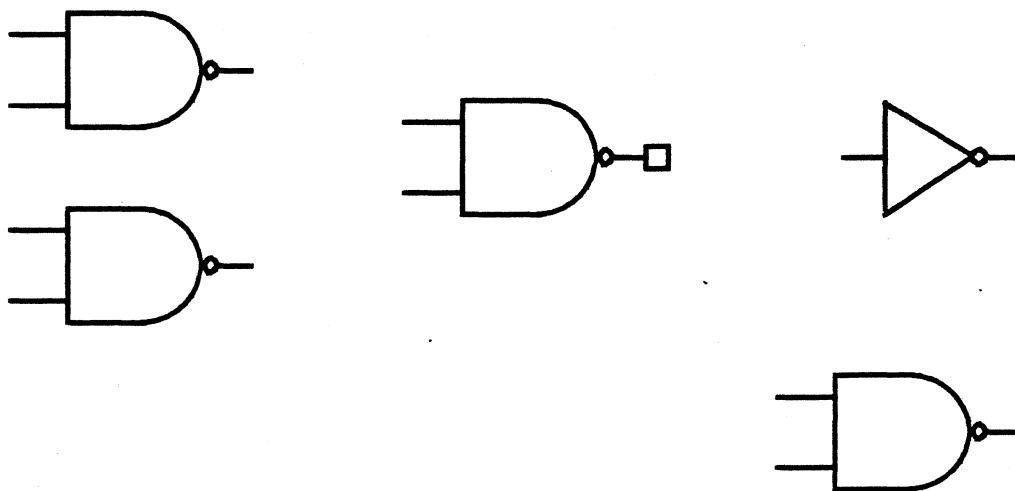
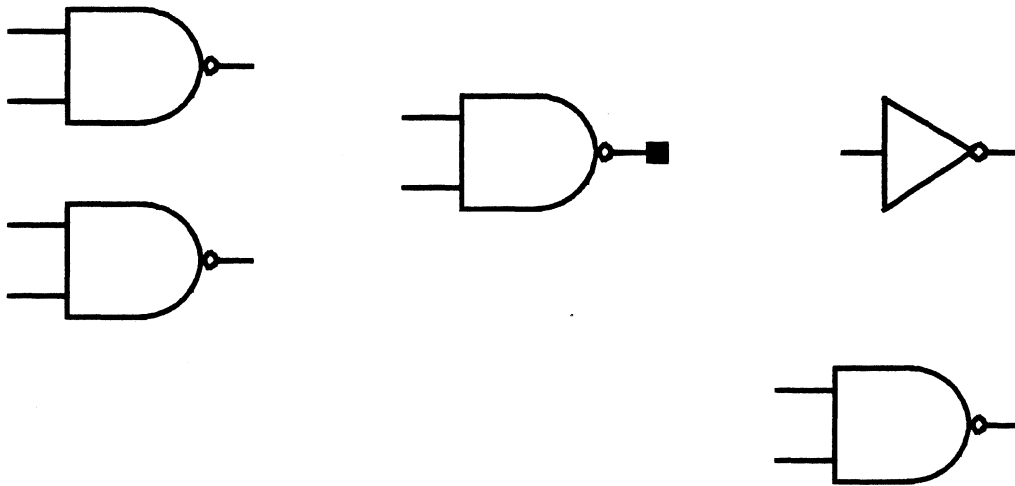
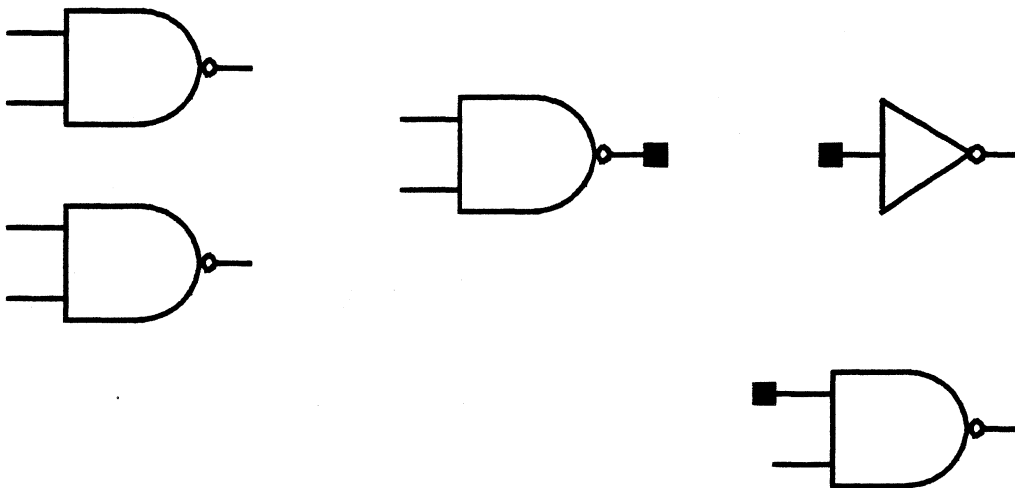

Figure 2.12
Figure 2.13
Figure 2.14
- 2) As you move the cursor on the display, the system places a box at the end of the closest symbol connection point (figure 2.12). Move the box to one of the symbol connection points for the net you want to create, and press the left mouse button. The system marks that point with a smaller, solid box (figure 2.13). Mark all of the symbol connection points that are on the net (figure 2.14). If you make a mistake, or decide that you do not want to include a marked connection point on the net, move the larger box back to that connection point and press the right mouse button. The system removes the solid box.